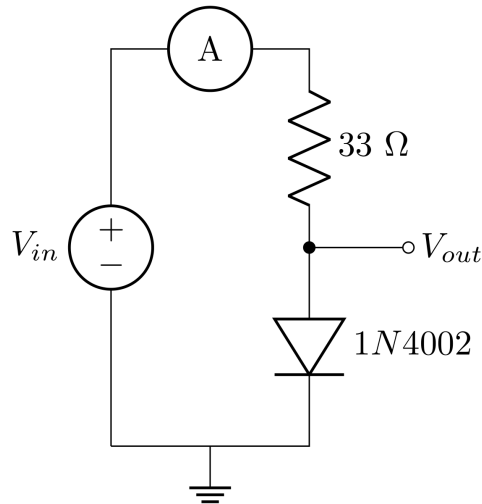

Figure 7: Simple diode circuit
1. Consider the circuit in Figure 7. If the diode is ideal with a threshold voltage of 0.6 V and a breakdown voltage of 50 V, predict the behavior of the current I (consider clockwise current to be positive) and V_{out} as a function of the source voltage V_{in} . Make a table of the predicted I and V_{out} for the following values of V_{in} : -2 V, 0 V, +0.5 V, +0.6 V, +0.7 V, +1 V, +2 V, +4 V.
1. Build the circuit in Figure 7 using the silicon diode 1N4002.